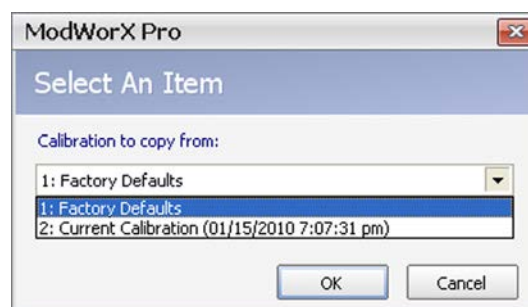

Figure 8.9
2. Select **“Factory Defaults”** or select a previously saved calibration from the dialog (Figure 8.9).